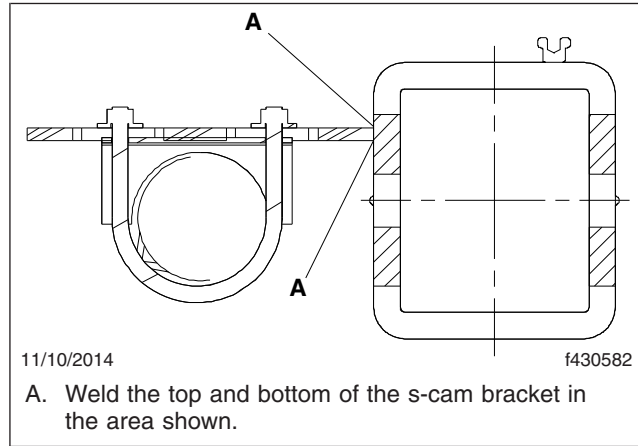

Fig. 3, Welding the S-Cam Support Bracket
10. Weld the top and bottom of the support bracket in the areas shown in Fig. 3.